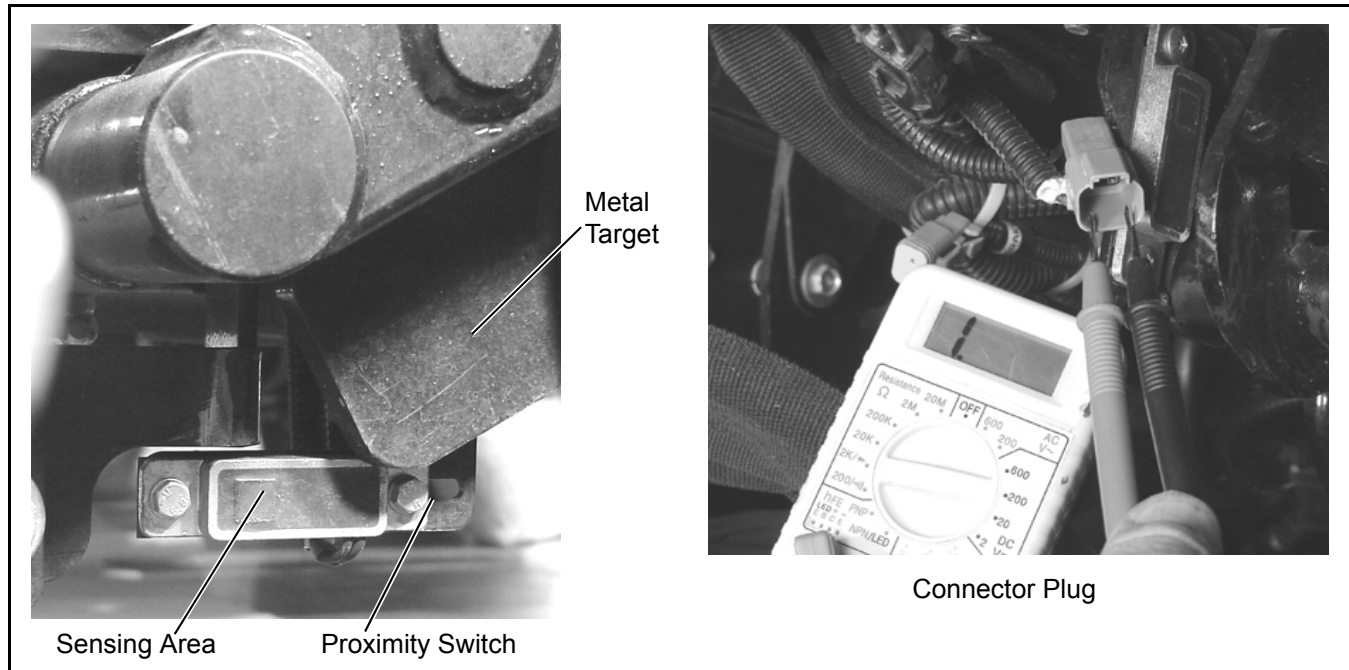

Figure 10G-4. Typical Proximity Switch
of the switch magnet (Figure 10G-4). The switch contacts must remain closed for a minimum travel of 0.18". Travel of the metallic object may be from either direction.
2. Remove the control panel from the top of the hydraulic tank. Locate the reel switch and remove the wiring harness connector, see Figure 10G-5.